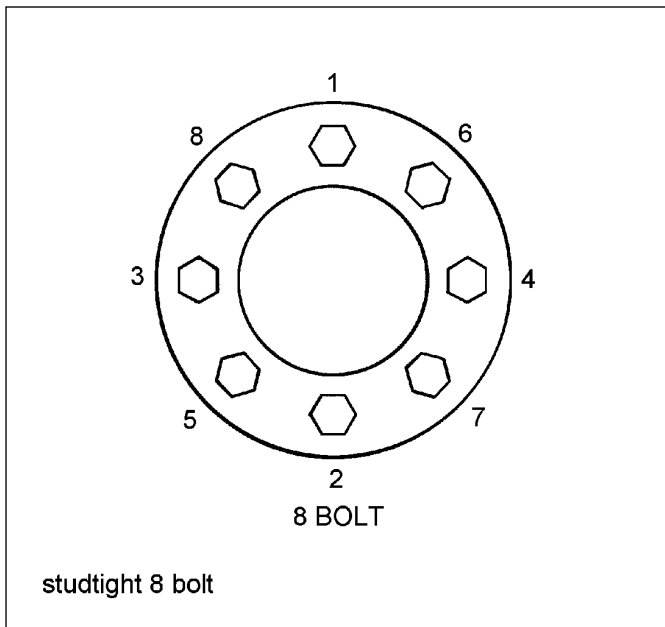

Figure 4-20: Stud Tightening Sequence
4. Install the flange nut and tighten to 50 ft-lbs using the sequence in **Figure 4-20**. Then tighten to full torque of 450 to 500 ft-lbs.